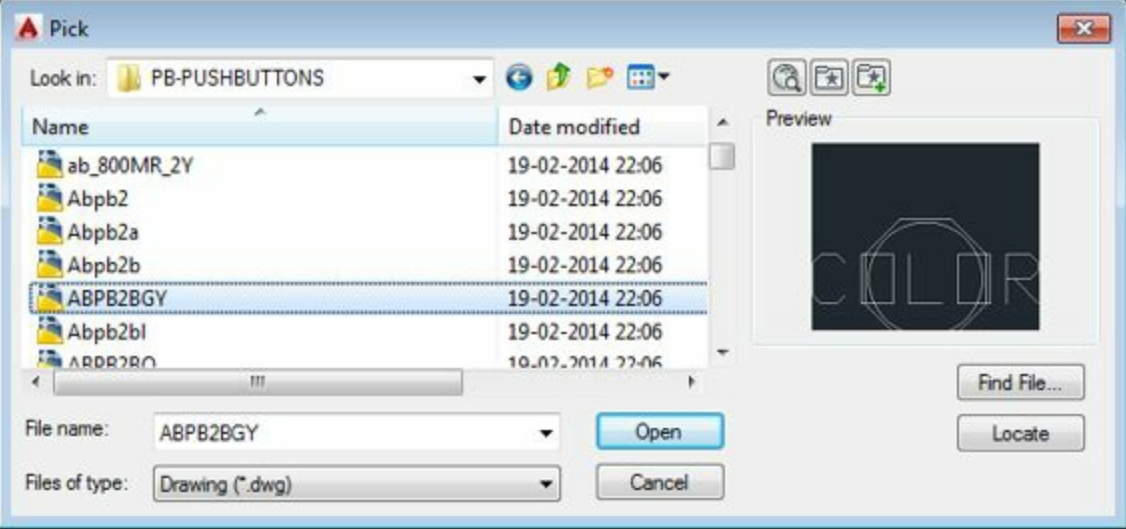

Figure-9. Pick dialog box
- If you have created a block for the component in your local drive then click on the **Browse** button and select the desired component block from the dialog box; refer to Figure-9.